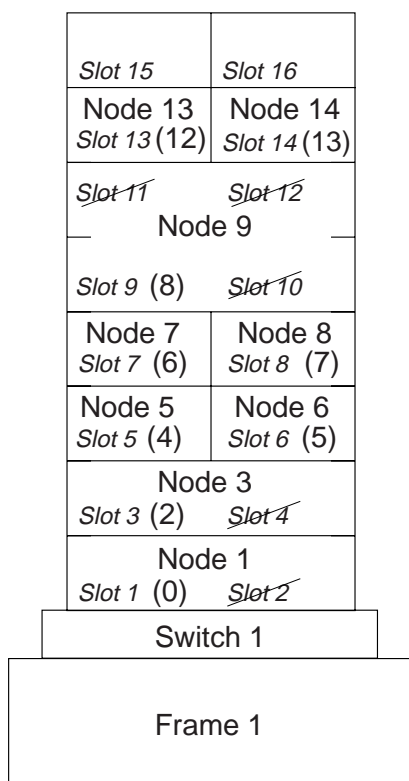
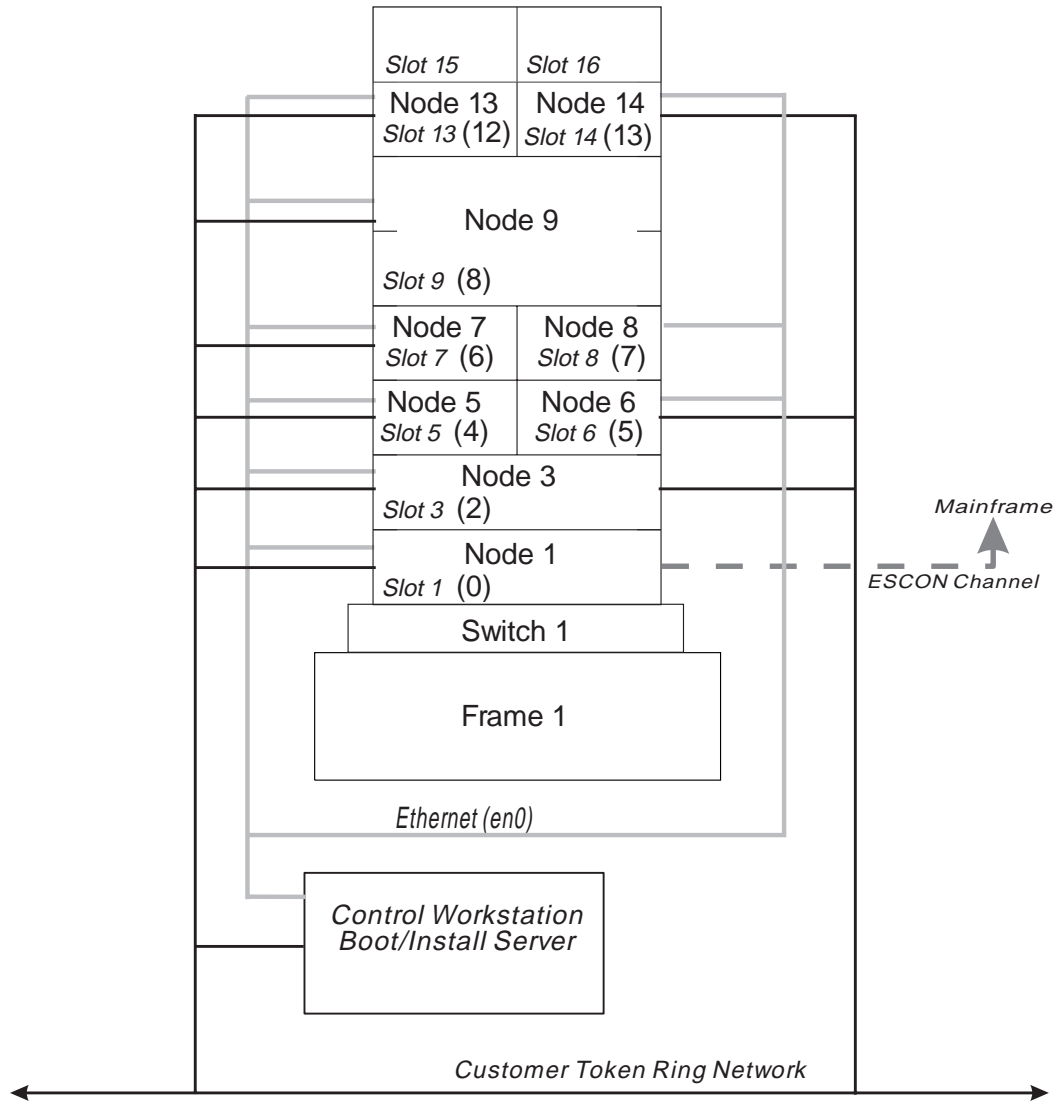

Figure 2. Node Layout Example for the ABC Corporation
Figure 3. The ABC Corporation Node Layout Example with Communications Information
ABC Corporation drew the network shown in Figure 2 on page 43 and Figure 3 on page 44. You'll fill in as many copies of Worksheets 5 and 6, Figure 54 on page 253 and Figure 56 on page 254, as you need.
2. Indicate whether each node is a wide, thin, or high node using a unique identifier for each. For example, you could represent wide nodes with a *w*, thin nodes with a *t*, and high nodes with an *h*. Slot numbers have been indicated on each frame diagram. Wide nodes occupy two slots and use the odd-numbered slot number. Cross out the even slot numbers in all wide nodes. High nodes occupy four slots. Figure 2 shows a single frame with numbered slots (terms in parentheses are switch port numbers) for the ABC Corporation.
At this point, your layout should look something like Figure 3 on page 44.